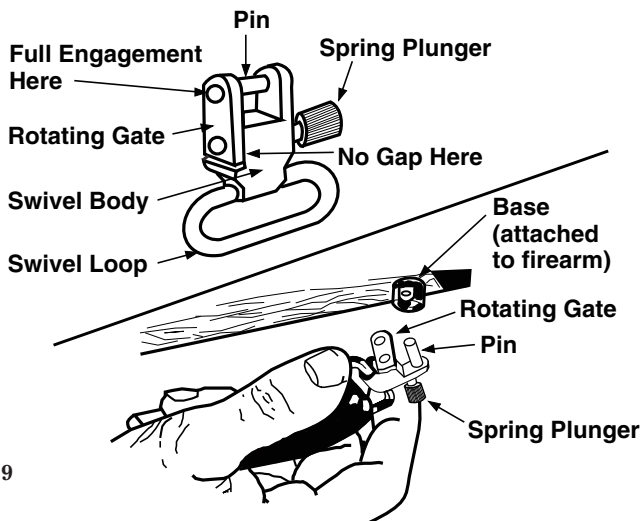

Figure 9
1. When attaching any QD swivel to its base, make sure the rotating gate is **FULLY ENGAGED** on the pin and there is no gap between the rotating gate and the swivel body. (See Figure 9 below). A QD SWIVEL NOT ENGAGED CAN ACCIDENTALLY BECOME DETACHED FROM ITS BASE.